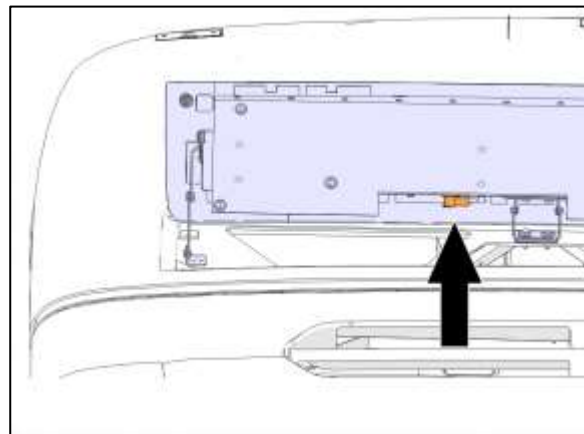

Figure 2: C12 location
2. Connector pair C12 is located on the door's upper section, near the left hinge. (Figure 2)